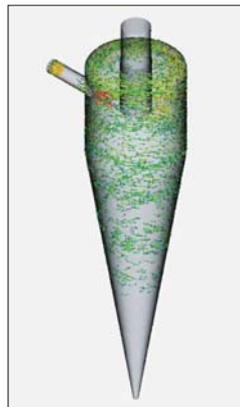

Figure 5: Particle behavior
- Figure 5 shows the analysis result of the behavior of sand particles with a diameter of 100 [μm]. The behavior of the particles is shown using velocity vectors until 7 seconds after the analysis starts. The particles flow in with the raw water, move downward along the separator wall, and flow out with the drain.